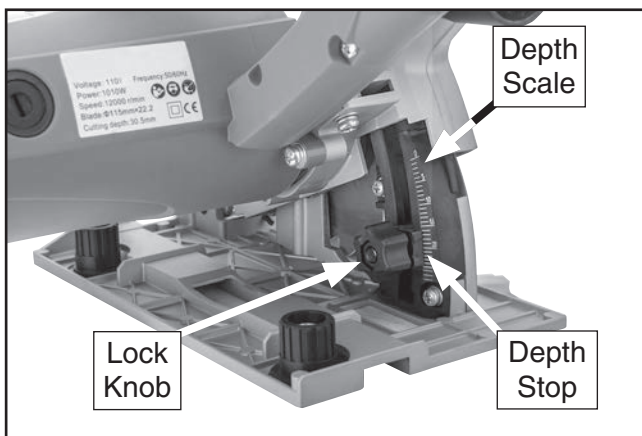

Figure 14. Depth-setting components.
2. Loosen lock knob (see **Figure 14**) to adjust depth stop along scale to maximum depth desired for cut.